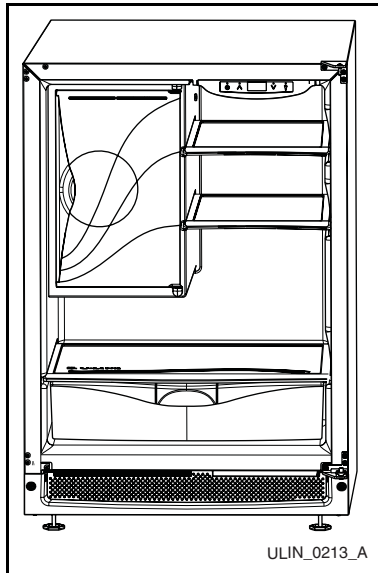

Figure 26
1. Pull shelf out about 6" (**Figure 26**) until back of shelf clears the "hump" on the right hand side.